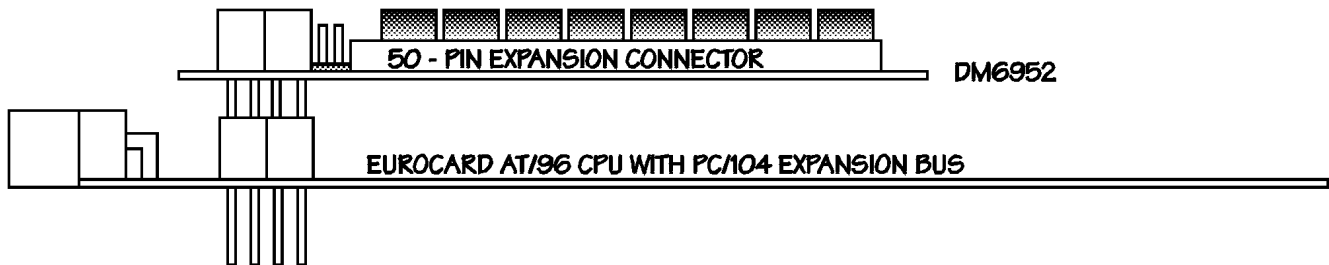

Fig 3-2: 19" Eurocard rack installation with an integrated PC/104 dataModule and EUROCARD cpuModule computer system
- Fig. 3-2 : 19" Eurocard rack installation with an integrated PC/104 data Module and EUROCARD cpuModule computer system
The PC/104 system can easily be inserted into a 19" rack installation using the CPU as a "form factor adapter". Assemble your PC/104 data modules on a RTD single board EUROCARD computer and install the system in a 19" enclosure. Multiple DM6952 boards can be easily connected to this system. See figure 3-2 below.